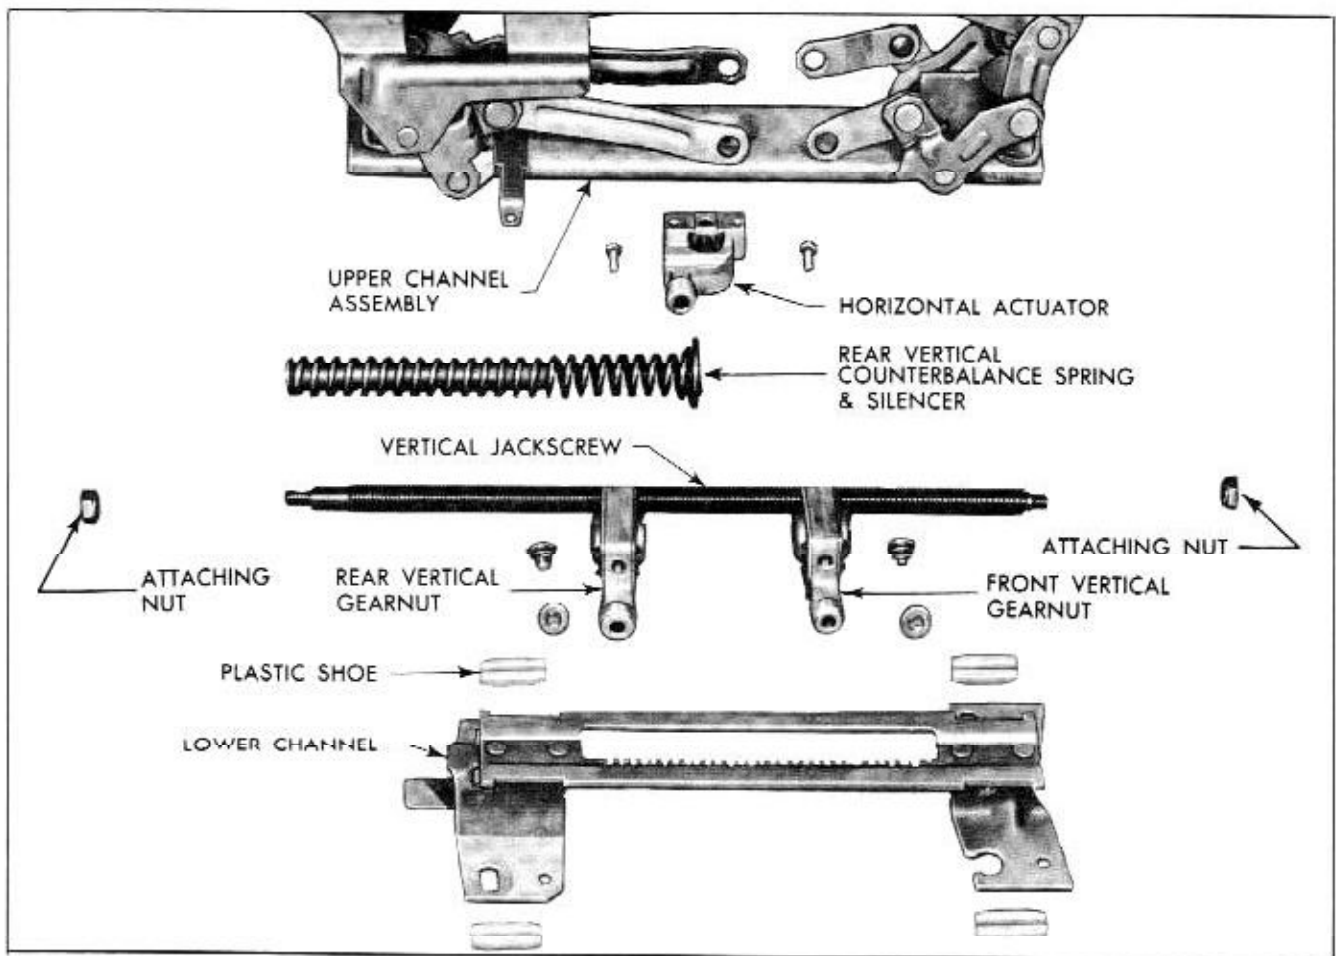

Fig. 17-74 Six-Way Seat Adjuster Assembly
5. Remove jackscrew front and rear attaching nuts. (Fig. 17-74) Lift front end of jackscrew sufficiently to disengage from support; then disengage rear end of jackscrew from support and remove jackscrew, gear nuts and spring assembly from adjuster. Spring and spring silencer may now be removed from jackscrew. (Fig. 17-74)
3. Slide seat adjuster lower channel from upper channel and, if required, remove plastic shoes from lower channel track. (Fig. 17-74)